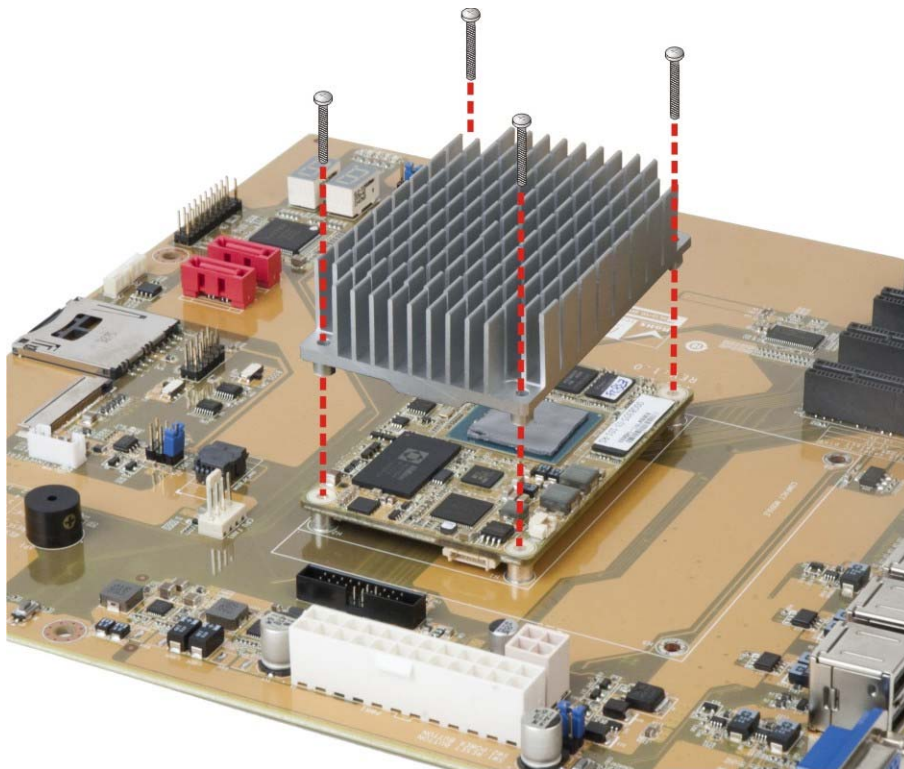

Figure 4-2: Secure the Heatsink
- Step 3:** Place the heatsink on the ICE-BT-T10, aligning the retention screw holes (Figure 4-2).
- Step 4:** Secure the heatsink to the ICE-BT-T10 and the baseboard with the supplied retention screws (Figure 4-2).